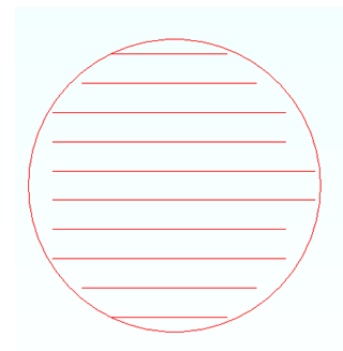

Figure 69: Orthogonal Fill
- Orthogonal - The start and ending points of the fill vectors will be in line if possible (Figure 69)